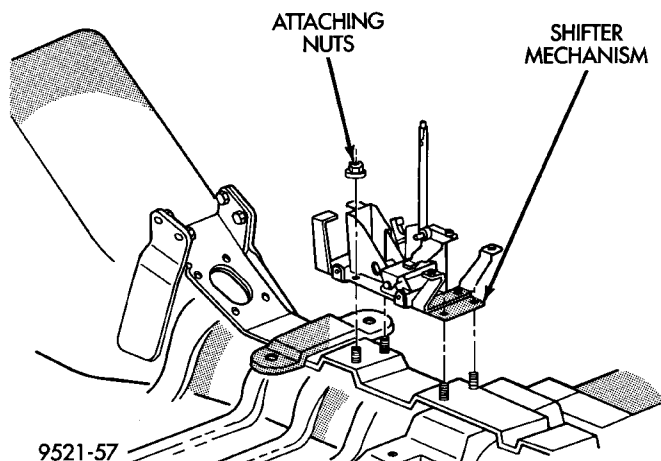

Fig. 16 Gearshift Mechanism
(8) Remove the nuts at the base of the gearshift mechanism (Fig. 16). Remove the shifter mechanism.